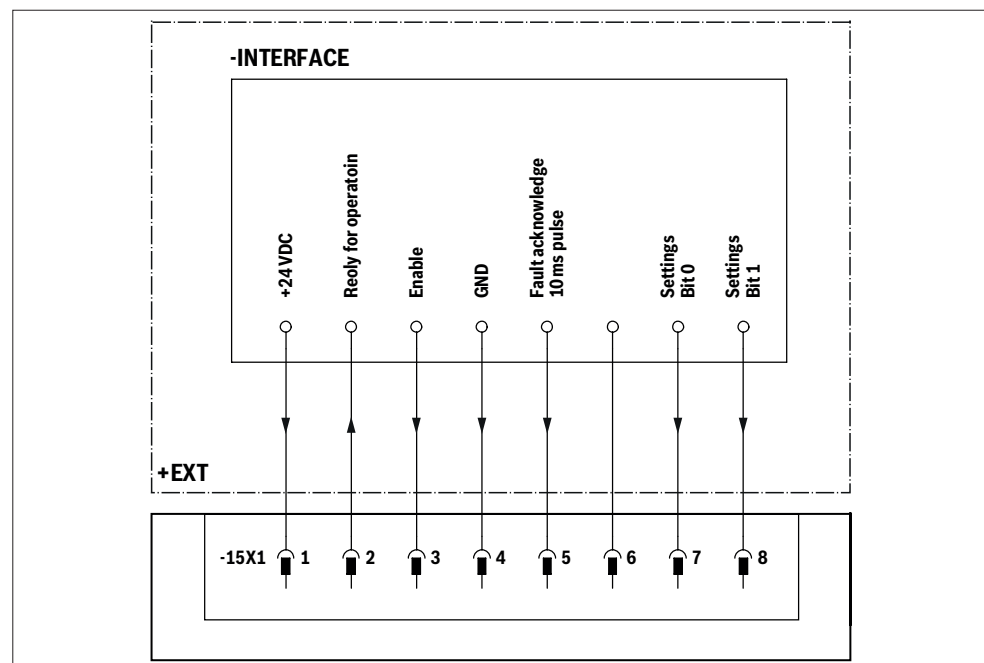

Fig. 20: Assignment of port 15X1: 24 V interface
- Use the mating connector as an interface to the higher-level machine control as shown in Fig. 20: